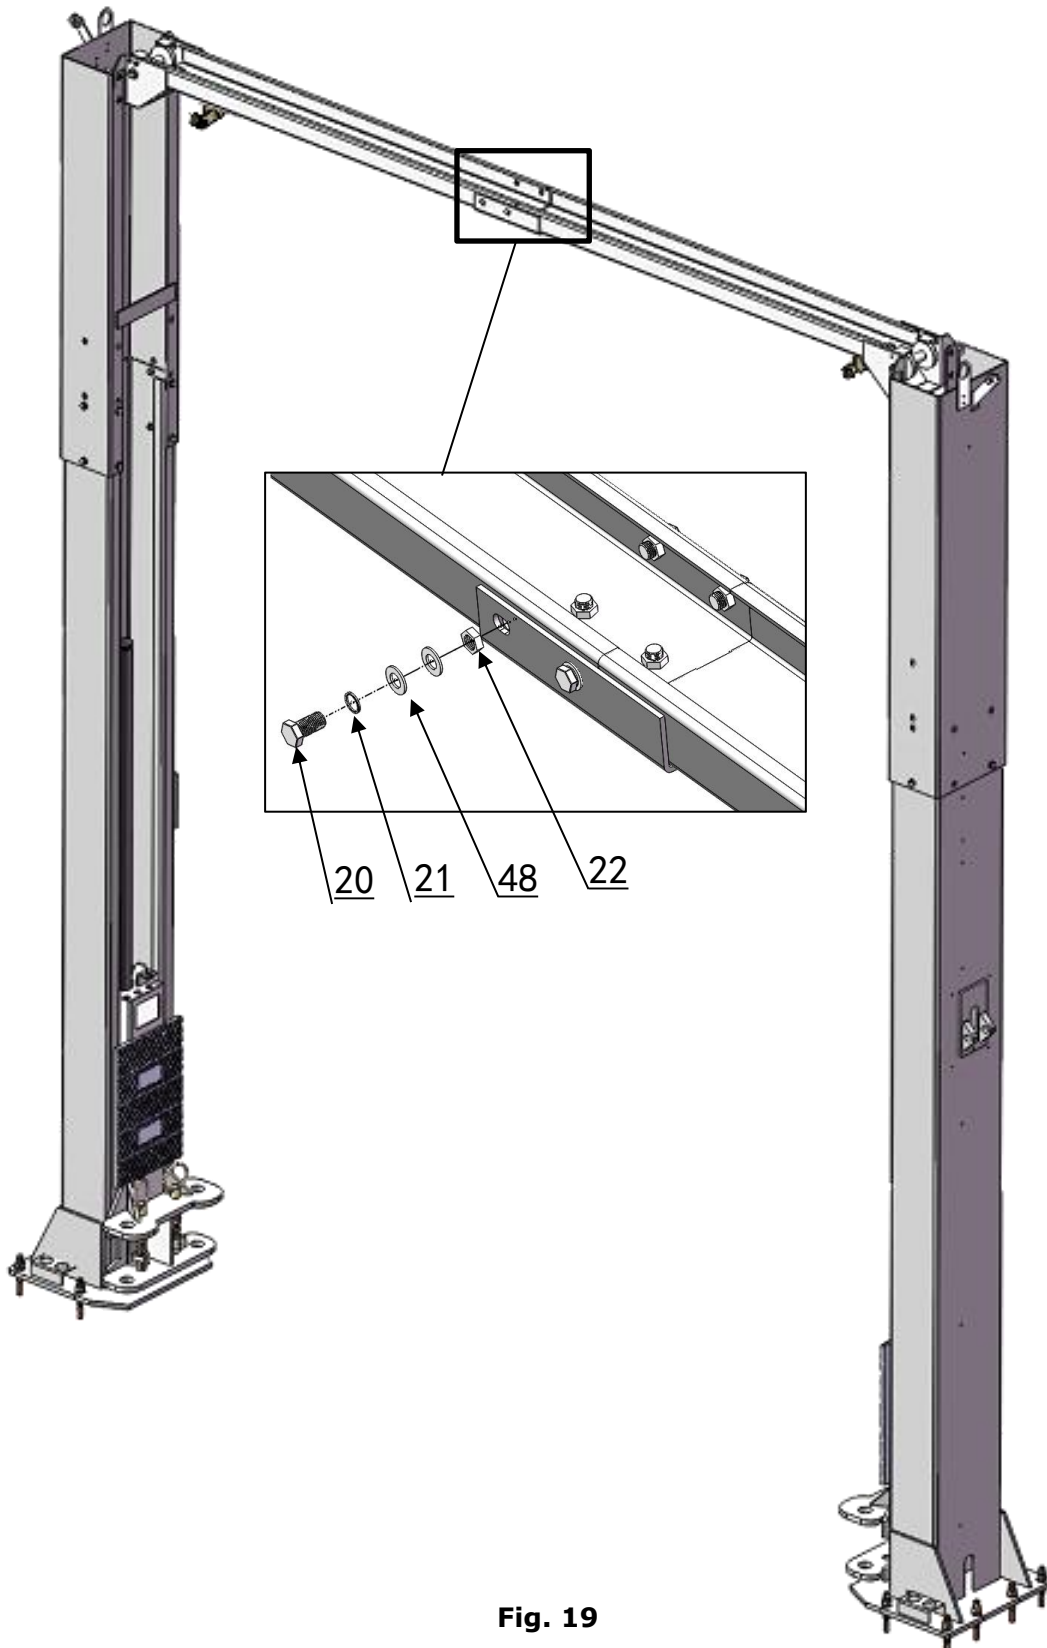

Fig. 19
2. After install the other top beam on off side outer column, bolt both top beams and tighten all the bolts. Finally tighten the anchor bolts. (See Fig. 19).